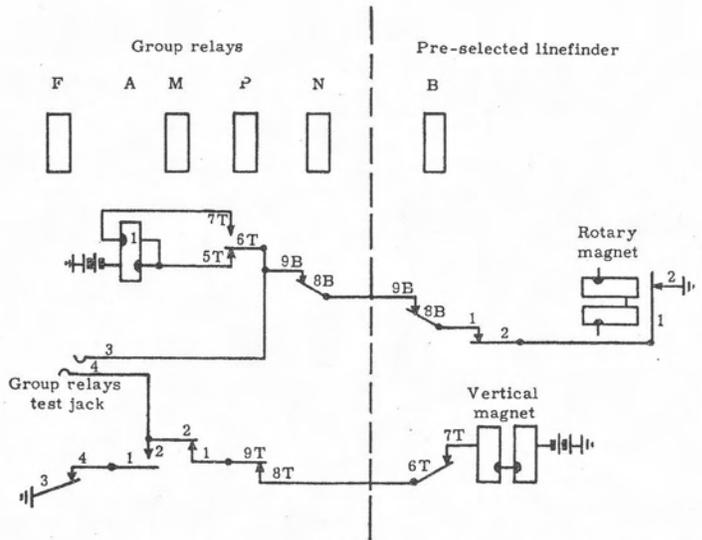

Figure 37. Circuit elements used to test "timing out" of one group relays and the transfer of its traffic to the other group.
6.55 Timing-out and transfer test (figure 37). To check the group transfer feature of a group, insert a coin, clip, or screwdriver between its test-jack springs 3 and 4. Then bridge or press together group-relays test-jack springs 1 and 2. Relay A locks when the shaft takes its first step. Since the linefinder is thus "frozen" on its first step, neither linefinder relay A or D may operate (§4.5) to release group relay N. Relay N is therefore unable to release relay F which by its continuous operation (§5.5) should cause group transfer to take place and the FINDER BLOCKED lamp to light. Momentarily operate the TRANSFER RESET key to extinguish the FINDER BLOCKED lamp and return the